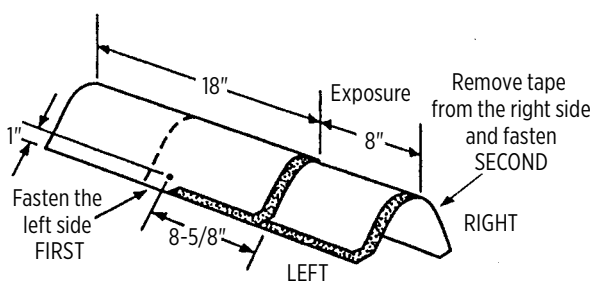

Figure 17-19: Installation of Shangle Ridge shingles on hips and ridges.
7. Fasten each cap with two fasteners (Figure 17-19). The fasteners must be $1\frac{3}{4}$ " long, or longer, so they penetrate either $\frac{3}{4}$ " into the deck or completely through the deck, exposing at least $\frac{1}{8}$ " of the tip of the nail. Expose 8" of the Accessory along the ridge or hip line and cover all fasteners.